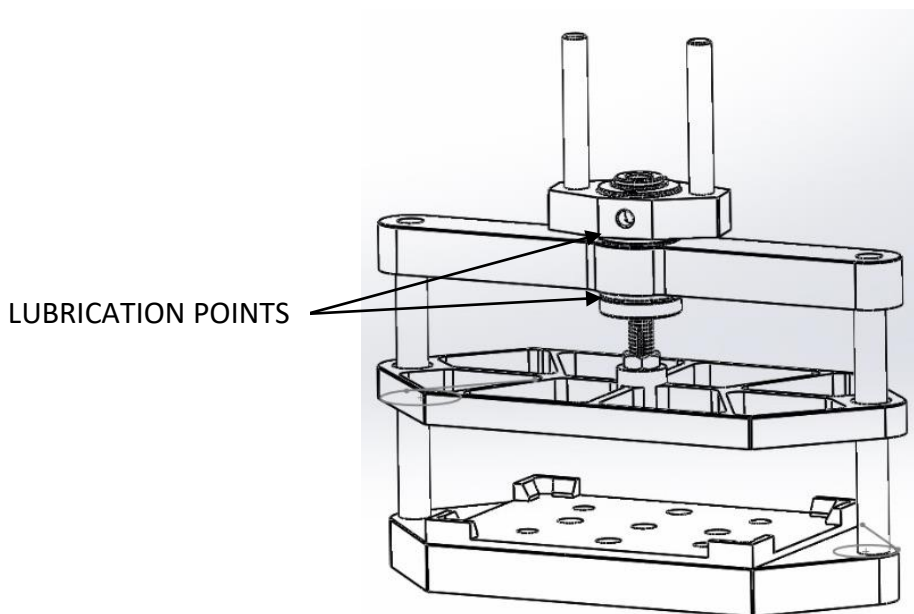

Figure 13 – Clamp Drive Nut
- Lubricate the Drive Nut with 1 drop of WD-40 to keep opening/closing clamp movement fluid in the two locations, as shown in Figure 13.